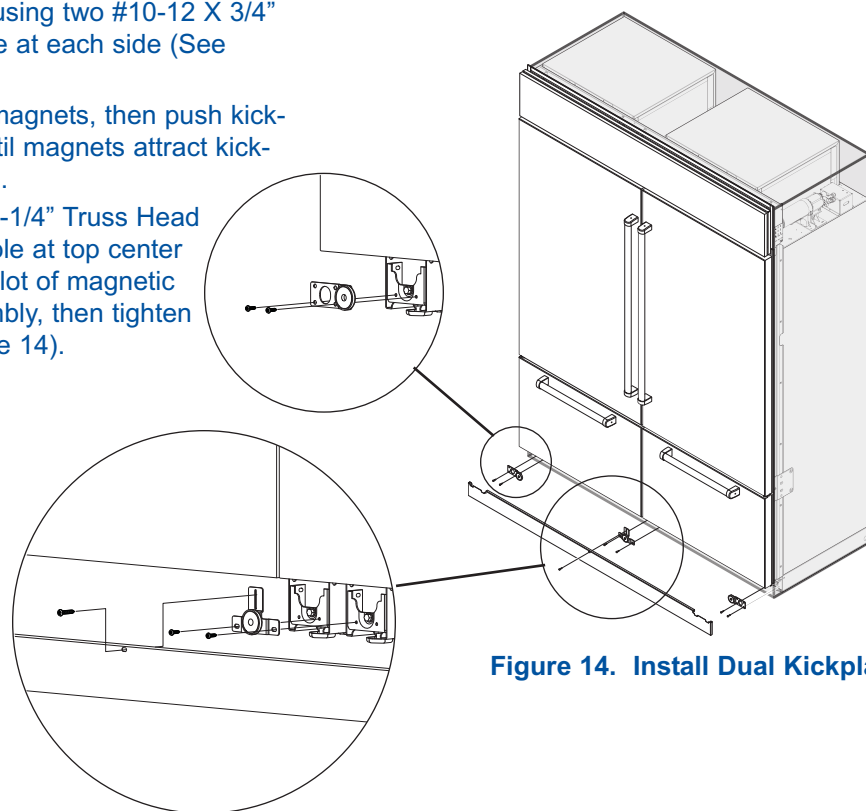

Figure 14. Install Dual Kickplate
1. Attach Magnetic Side Bracket Assemblies to the outer unit bases using #10-12 X 3/4" Six Lobe Screws, two per bracket (See Figure 14).
2. Attach Magnetic Center Bracket Assembly to the inner unit bases using two #10-12 X 3/4" Six Lobe Screws, one at each side (See Figure 14).
3. Align Kickplate with magnets, then push kickplate toward units until magnets attract kickplate (See Figure 14).
4. Insert the #10-12 X 1-1/4" Truss Head Screw through the hole at top center of kickplate into the slot of magnetic center bracket assembly, then tighten the screw (See Figure 14).